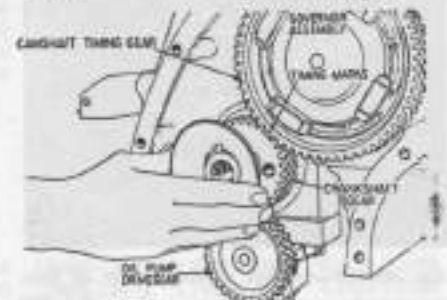

Fig. MH133—Massey-Harris timing gear marks and oil pump drive gear.
46. To remove timing gear cover first remove the hood, radiator and grille. Remove fan blades, belt and crankshaft pulley. Disconnect governor linkage at governor arm. On model 44 remove hydraulic system pump, or pump and auxiliary cover, from upper left corner of timing gear cover. Loosen engine support bolts, raise front end of engine slightly, and block in position. Remove timing gear case cover and check timing gear marks as per Fig. MH133 to insure re-installation in correct position.